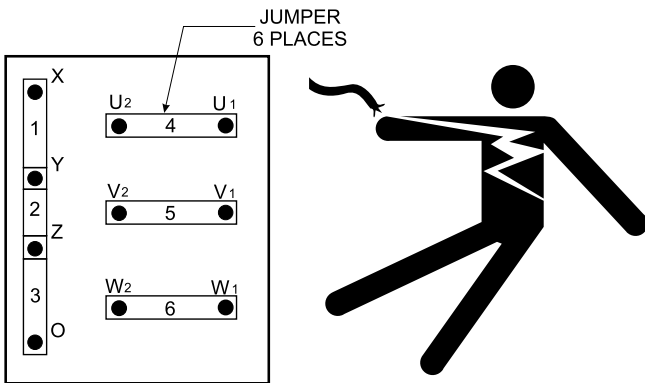

Figure 13. Voltage Change-Over Board.
A wide range of voltages are available to supply voltage for many different applications. Voltages are selected by applying jumpers (6) to the **voltage change-over board** (Figure 13). To obtain some of the voltages as listed in Table 7 (see below) will require a fine adjustment using the **voltage regulator (VR) control knob** located on the control panel.
The voltage change-over board (Figure 13) is located on the control box, behind the generator control panel. This board has been provided for ease of voltage selection.